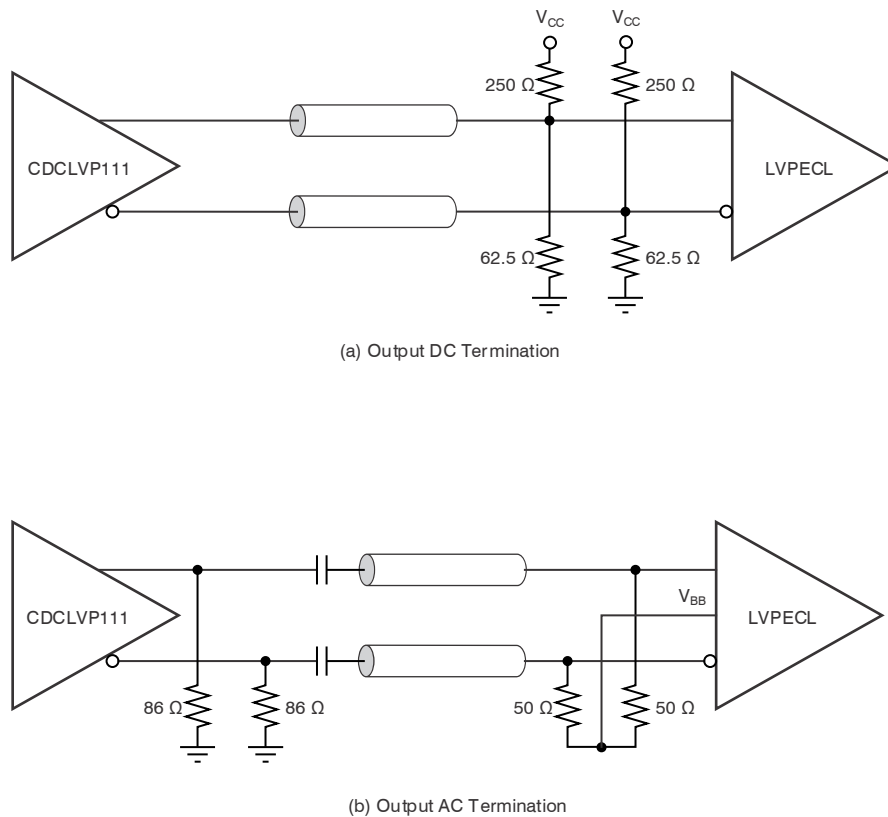
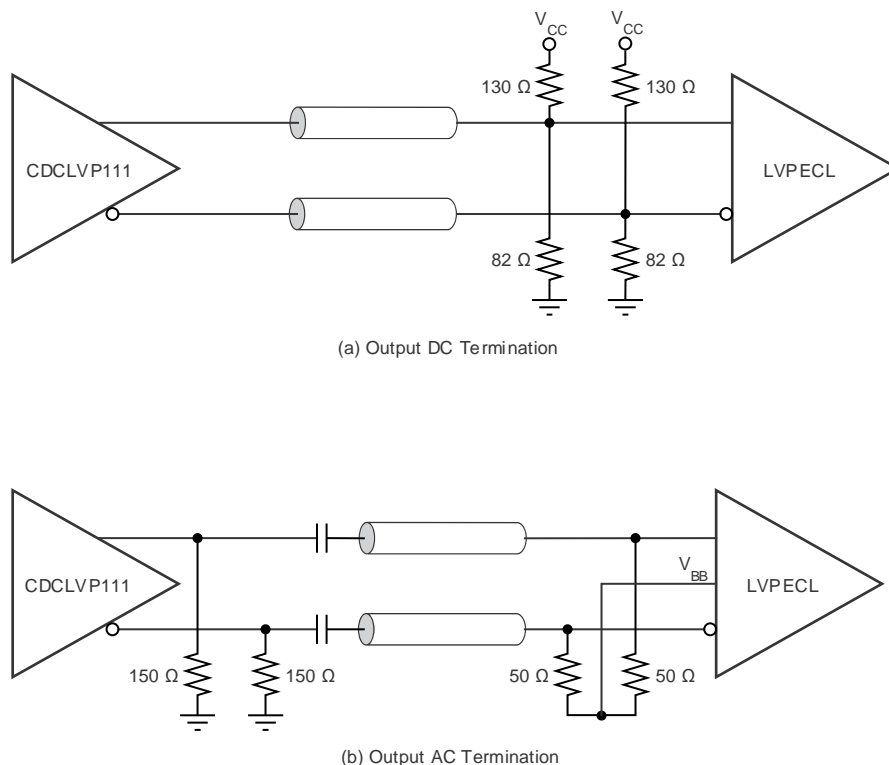

Figure 8. LVPECL Output DC and AC Termination for  $V_{CC} = 2.5\text{ V}$
Figure 9. LVPECL Output DC and AC Termination for  $V_{CC} = 3.3\text{ V}$
The CDCLVP111 is an open emitter for LVPECL outputs. Therefore, proper biasing and termination are required to ensure correct operation of the device and to minimize signal integrity. The proper termination for LVPECL outputs is a  $50\ \Omega$  to  $(V_{CC} - 2)\text{ V}$ , but this DC voltage is not readily available on PCB. Therefore, a Thevenin equivalent circuit is worked out for the LVPECL termination in both direct-coupled (DC) and AC-coupled configurations. These configurations are shown in Figure 8 (a and b) for  $V_{CC} = 2.5\text{ V}$  and Figure 9 (a and b) for  $V_{CC} = 3.3\text{ V}$ , respectively. TI recommends to place all resistive components close to either the driver end or the receiver end. If the supply voltage for the driver and receiver is different, AC coupling is required.
Refer to Figure 8 for output termination schemes depending on the receiver application.